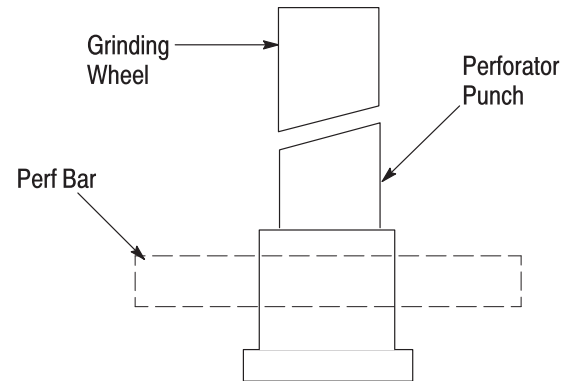

Figure 6
- Place the punch (perforator) into perf bar. See Figure 6. Perf bars are available from Tyco Electronics (contact PCB Singulation Systems Customer Service at 1-888-782-3349). Perf bars can hold up to ten perforators at a time.